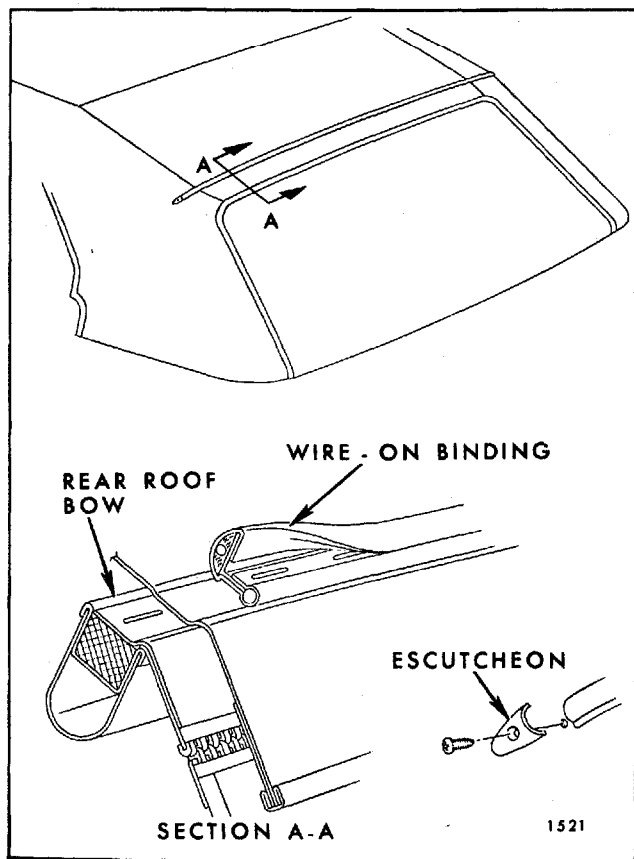

Fig. 6-9—Rear Roof Bow Wire-On Binding
23. Remove screw securing escutcheon clip at each end of wire-on binding on rear bow. Remove wire-on binding from rear bow. Detach top material from rear roof bow and from trim sticks, then remove top cover assembly (Fig. 6-9).